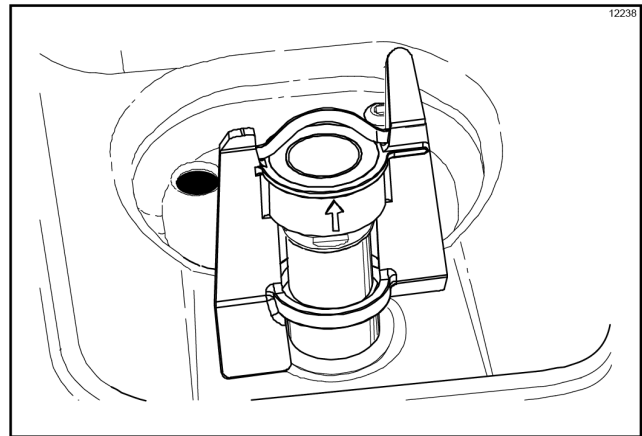

Figure-62
**Important!** *Fill the mix hopper with mix up to the fill level indicator on the agitator paddle. (See Figure-62.)*